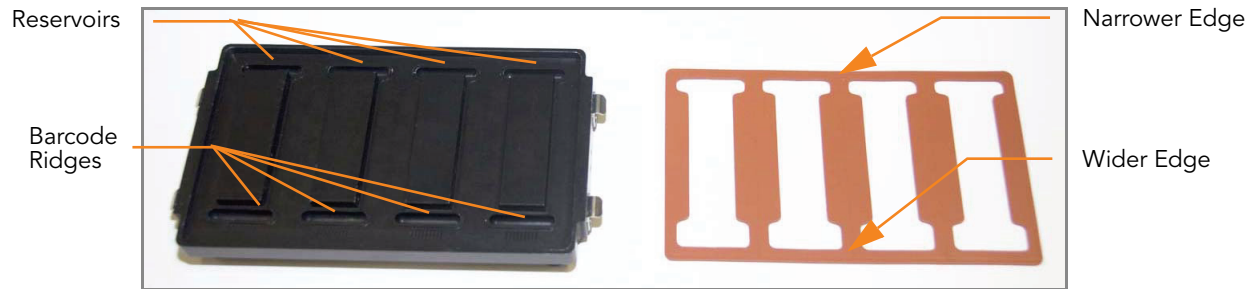

Figure 140 Hyb Chamber and Gasket
- a. Match the wider edge of the gasket to the barcode-ridge side of the Hyb Chamber (Figure 140).